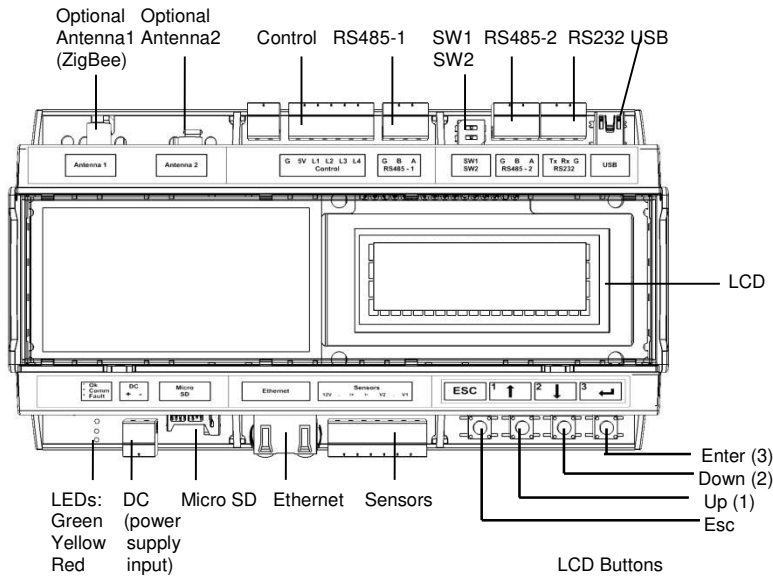

Figure 3: Control and Communication Gateway Interfaces
Four buttons are used for controlling the LCD menus (see Figure 3):
- 1 Insert the power supply DC connector to the SolarEdge gateway (see Figure 3).
- 2 Connect the power supply to the AC mains. The LEDs are lit momentarily to indicate power connection (see Figure 3).